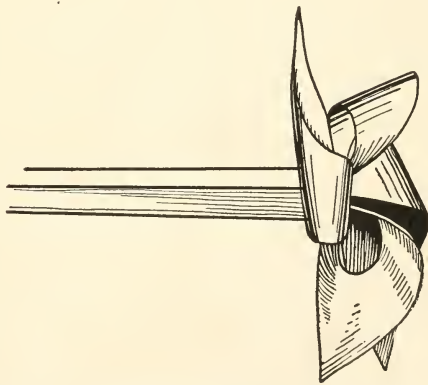

FIG. 1.—The Paper Pinwheel is the Simplest Pinwheel to Make.
**The Paper Pinwheel** shown in Fig. 1 is one of the best whirlers ever devised. A slight forward thrust of the stick handle upon which it is mounted starts it in motion, and when you run with the stick extended in front of you it whirls at a merry speed.